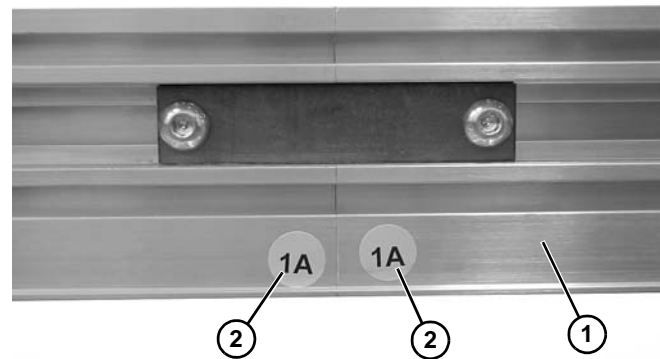

Figure 8
1. Locate and arrange conveyor sections (Figure 8, item 1) by section labels (Figure 8, item 2).